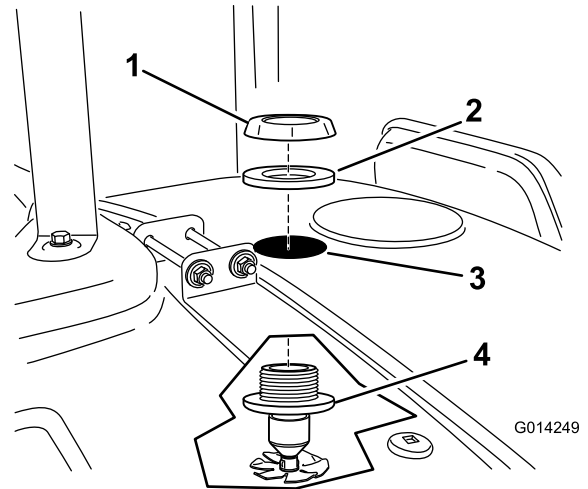

Figure 17
6. Install a nozzle assembly up through the drilled hole (Figure 17).
7. Install the bulkhead-fitting gasket and nut over the exposed threads of the rinse-nozzle assembly (Figure 17).